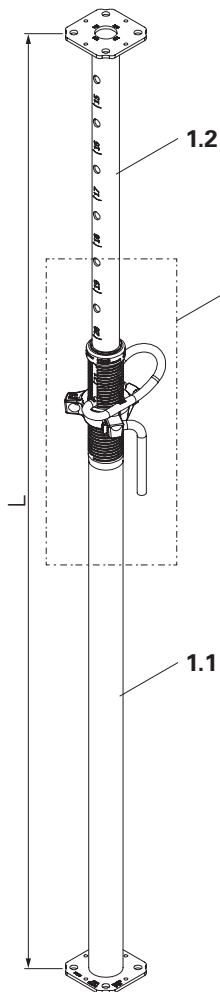
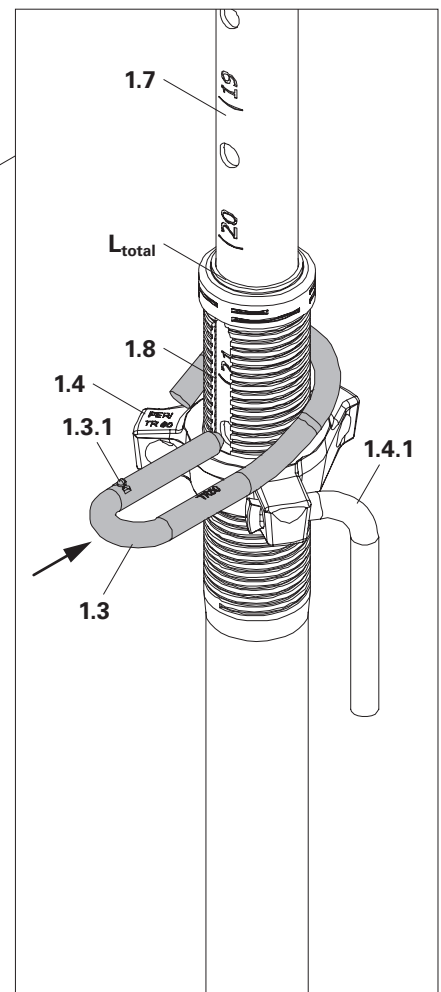

Fig. A1.01
Fig. A1.01a
1. Extend inner tube (1.2) of the Slab Prop (1) to the required height marking (1.7). (Fig. A1.01 + Fig. A1.01a)
2. Turn the Inner Tube (1.2) so that the hole in the slot (1.8) of the outer tube (1.1) is visible. (Fig. A1.01 + Fig. A1.01a)
3. Insert the G-Hook (1.3) into the visible hole and push it up to the stop (1.3.1). → The Inner Tube (1.2) is fixed in place. (Fig. A1.01a)
4. Turn the adjusting nut (1.4) on the handle (1.4.1) to the desired dimension. (Fig. A1.01a)